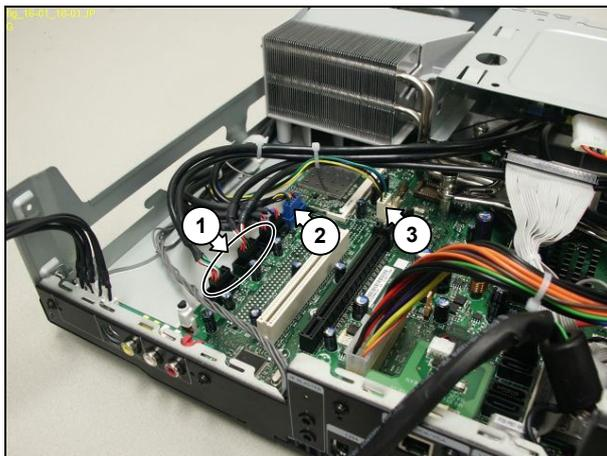

Figure 12.15-1
7. Disconnect the 3 USB cables (1) from the motherboard. See Figure 12.15-1.
8. Disconnect the 1394 cable (2) from the motherboard. See Figure 12.15-1.
9. Disconnect the CPU fan cable (3) from the motherboard. See Figure 12.15-1.